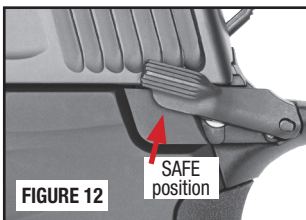

FIGURE 12
- If the Empty Chamber Flag is not visible when you handle the pistol, treat the pistol as if a round has been loaded into the chamber. With the pistol pointing in a safe direction, push the manual thumb safety up into the SAFE position (FIGURE 12).